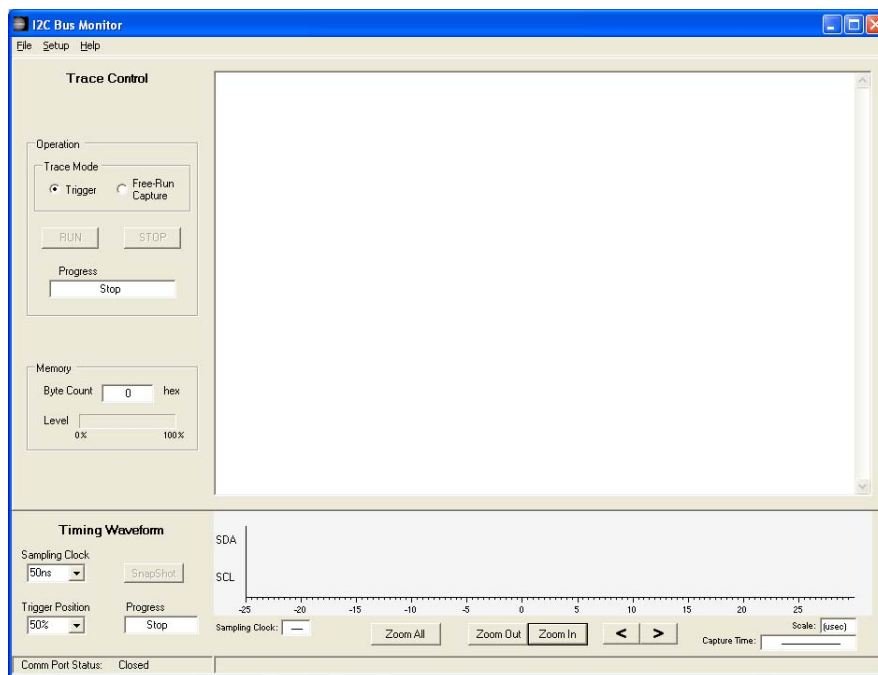

Figure 1. I2C Bus Monitor Window
3. Verify that the main I2C Bus Monitor window is displayed as shown in figure 1.